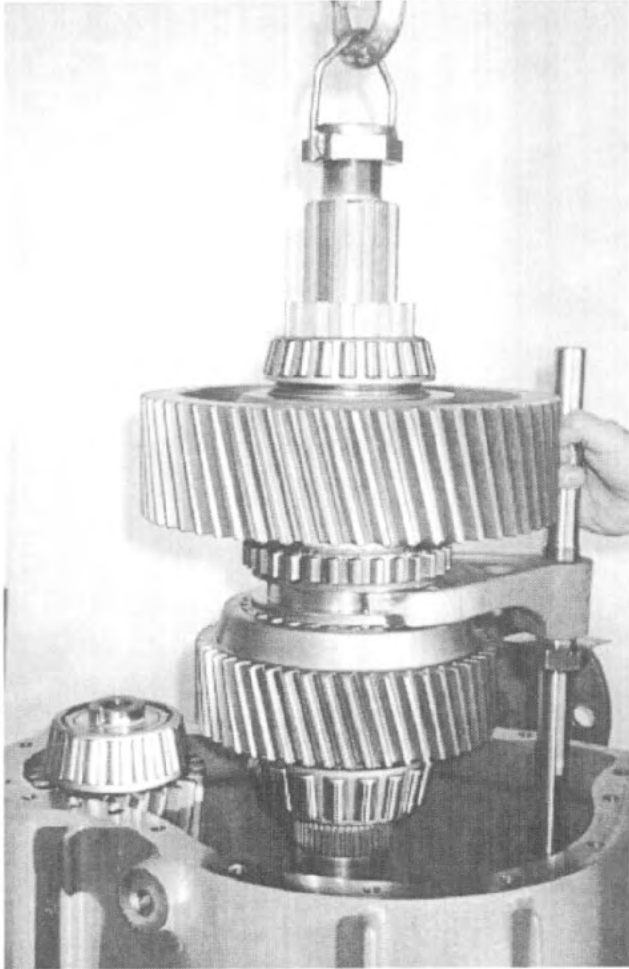

Fig. 28
26. Remove the rear lower output shaft and shifter shaft assembly from the transfer case housing. To prevent damage to the shaft assembly, store the assembly in a secure area. *See Fig. 28.*